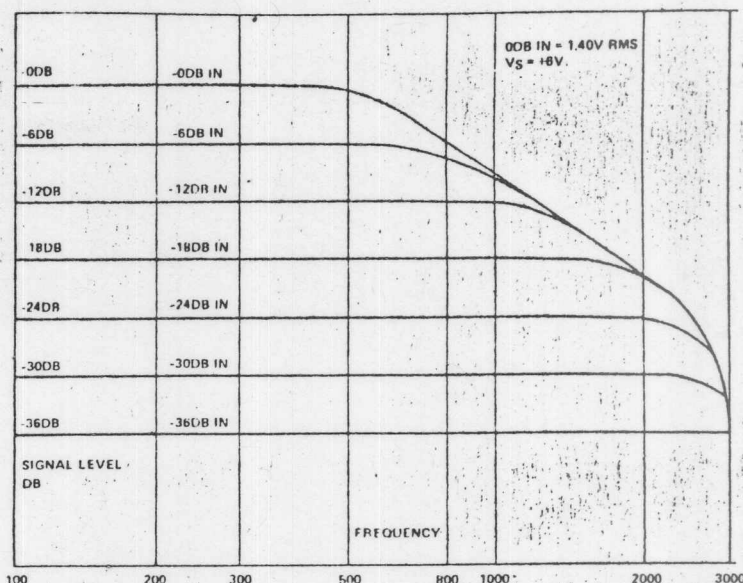

Figure 1 — Transfer Function for CVSD at 16KB
13. At sufficiently high signal amplitude or frequency, the encoder will become slope-overloaded. Figure 1 shows the frequency response at various signal levels, measured with a 3 KHz low-pass filter having a 130 db/octave roll-off to -50 db.